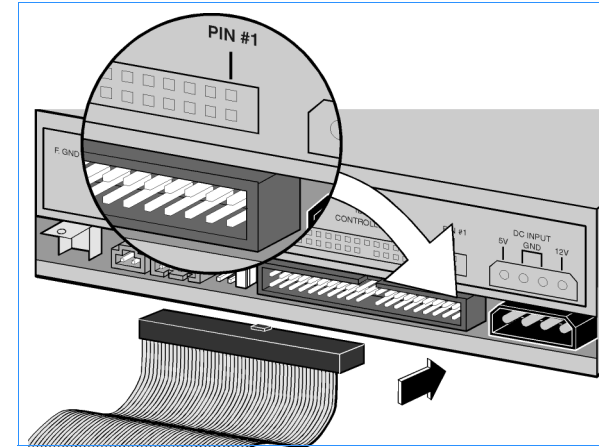
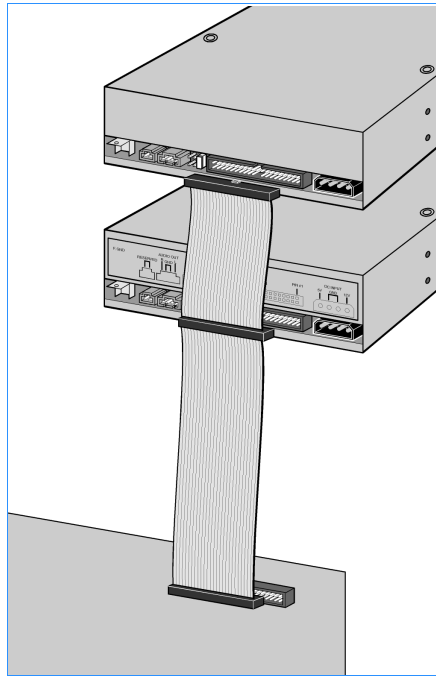
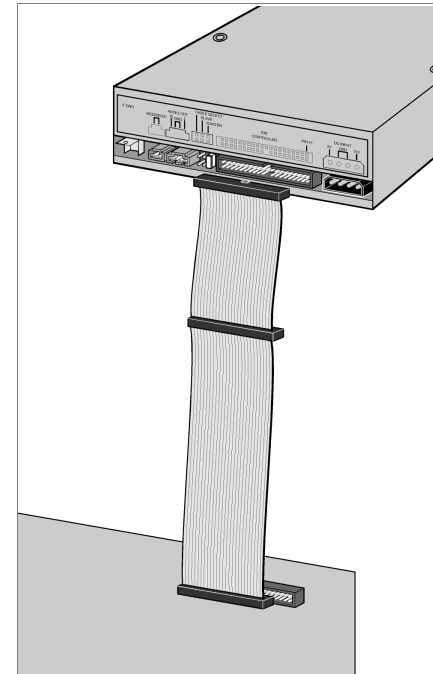

Figure 21 Data Cable Connector on Drive Back
Figure 22 An hp dvd-writer Drive Sharing the Data Cable
Figure 23 An hp dvd-writer Drive Not Sharing the Data Cable
- Connect the data cable to the hp dvd-writer (see Figure 21, Figure 22, and Figure 23).
- a. For an hp dvd-writer drive sharing the data cable with another device, follow the cable already attached to the other device. If you find an extra connector along that cable, simply attach that connector to the hp dvd-writer drive (see Figure 22).
- b. For an hp dvd-writer drive that is the only device on the data cable, locate the IDE connector on the motherboard and use the data cable included in the box to connect the hp dvd-writer drive to the IDE connector (see Figure 23).